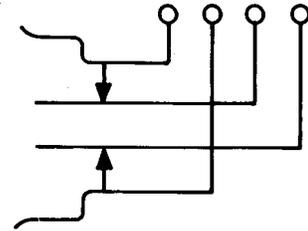

Fig. 2—452A Jack
**2.02 452A:** This single-mounted jack (Fig. 2) is used in the panel of the patching cord test set per J94711A. This jack is also equipped with No. 2 metal contacts.